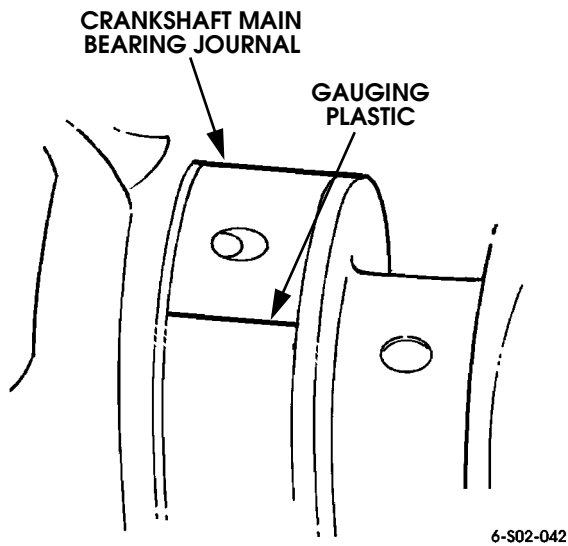

Figure 2-178: Gauging Plastic Position on Crankshaft Main journal
6. Position length of plastigauge on each main bearing journal (Figure 2-178). Cut plastigauge so it extends across three quarters of journal. Position plastigauge so it is parallel to crankshaft center line as shown.